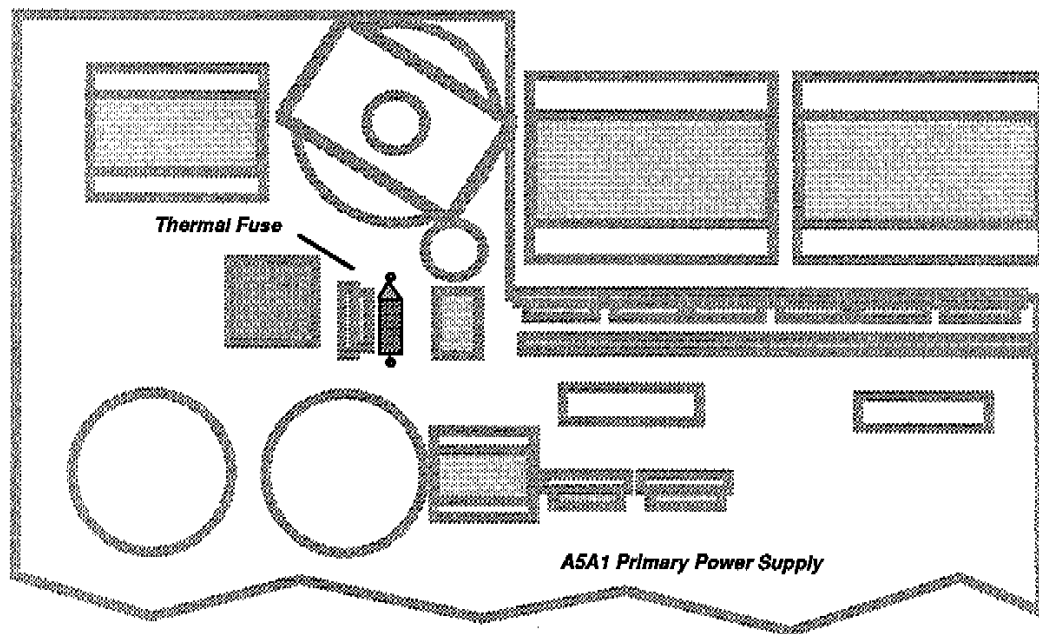

Figure 4-12. Replacing the Thermal Fuse.
- 2. Use pliers to remove the Thermal Fuse (A5A1F10). See Figure 4-12.